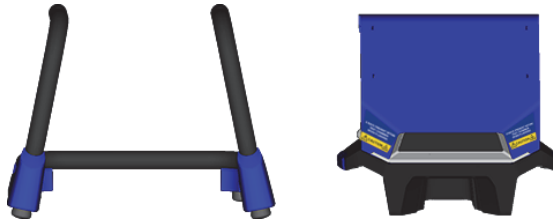

Figure B-6 Work Station legs and chamber
1. Set the Work Station legs and chamber beside each other on a table or bench (see Figure B-6 on page 113).